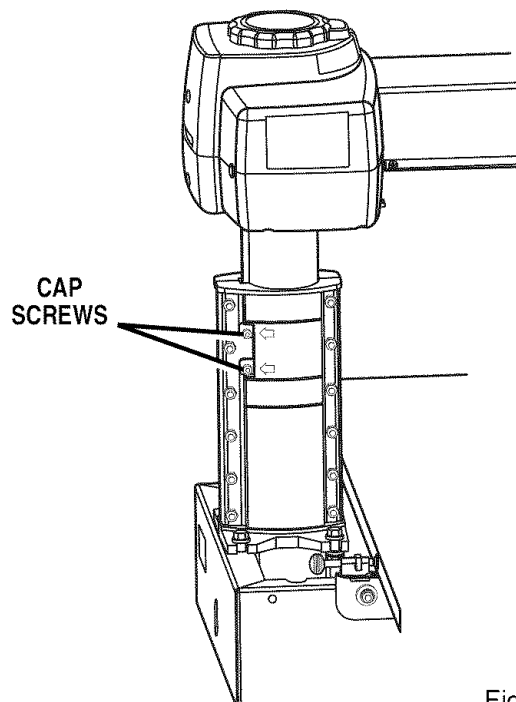

Fig. 19D
- **Rotation Adjustment:** Using a 3/16 in. hex key, slightly tighten the two cap screws at the back of the column support (left side) until no play shows between the radial arm and the column. The cap screws are indicated by arrows. See Figure 19D.